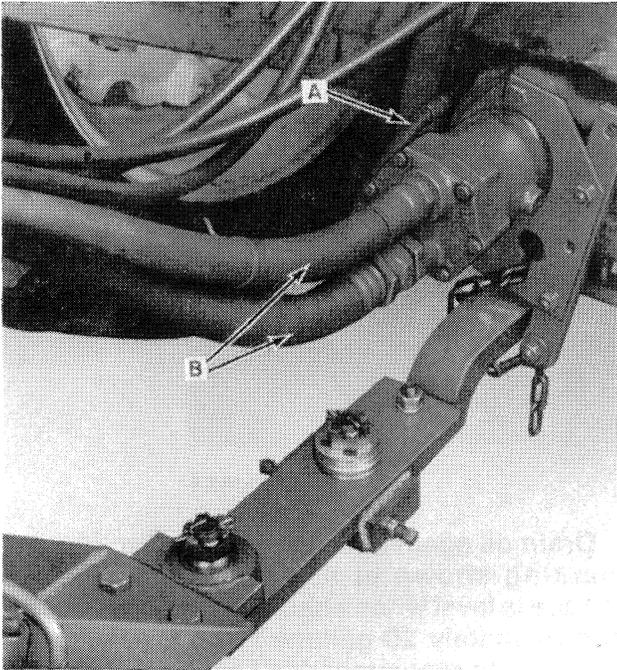

FIGURE 5
1. Remove the three hydraulic oil lines, A and B, Figure 5.